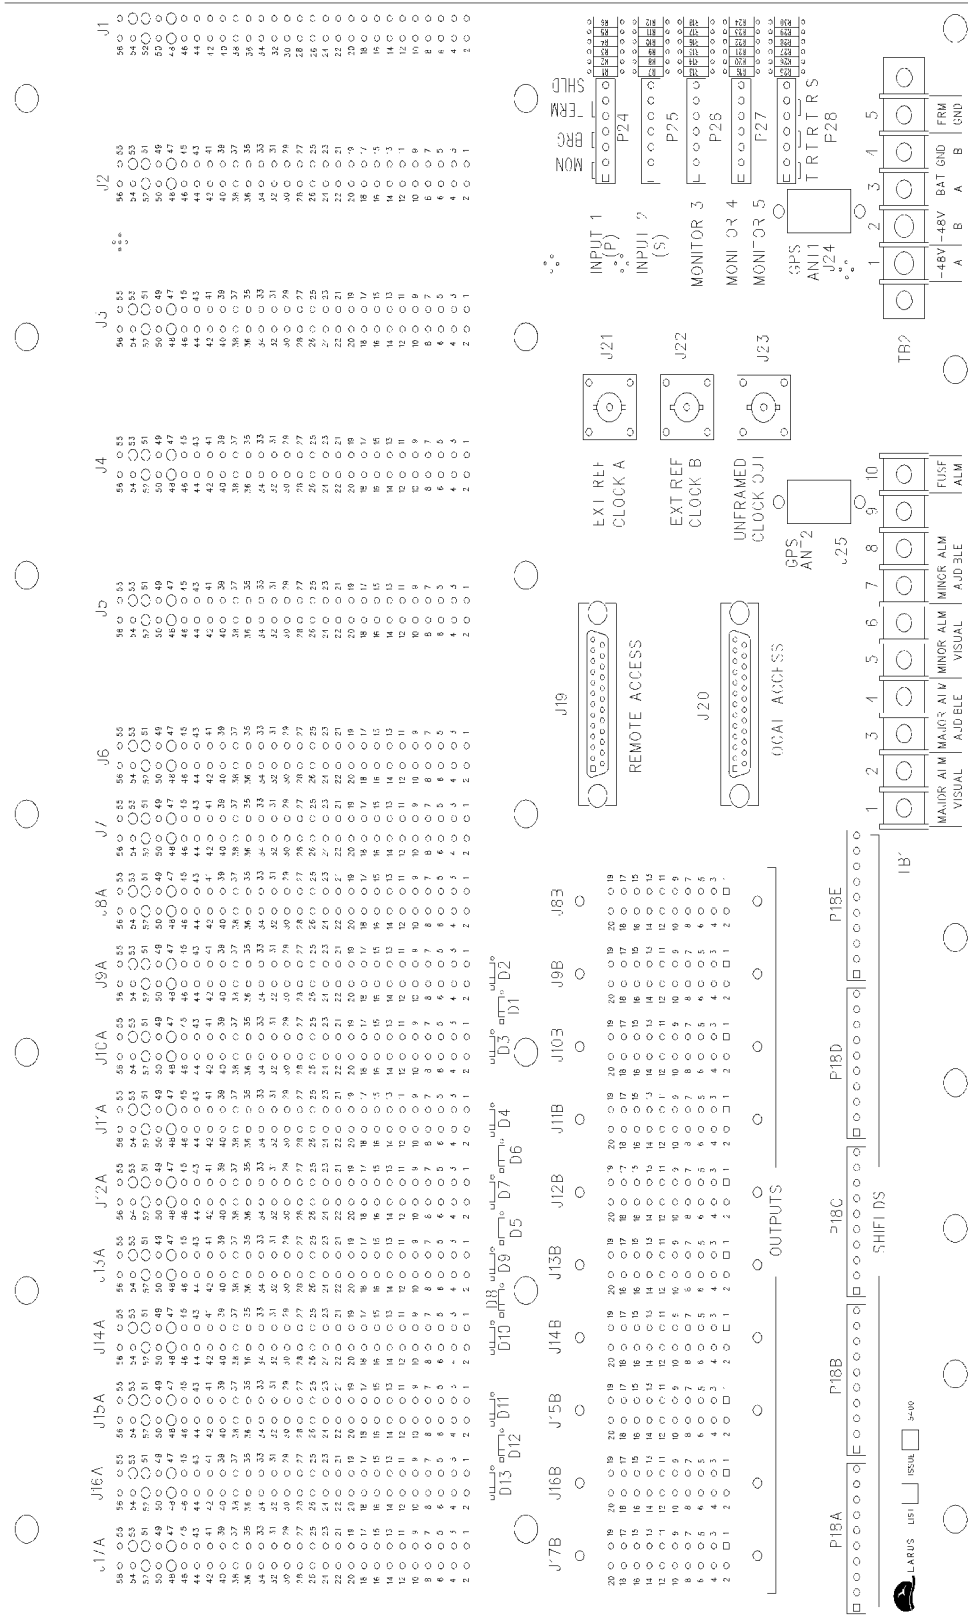

Figure 5-1. Model STS 5400-3, 5400-3A Mounting shelf Backplane (non-GPS)
- 5.201 The backplane is rack mounted in a 19/23 inch shelf. Refer to Figures 5-1 and 5-2.